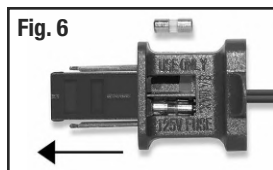

Fig. 6
(Figure 6) PowerConnect trees do not require the connection of light strings between sections. Electrical connections are made when each section is assembled.
2. Fuses are located in light string plug. Slide the fuse access cover away from cord side (in direction of arrow, Figure 6) exposing fuses.